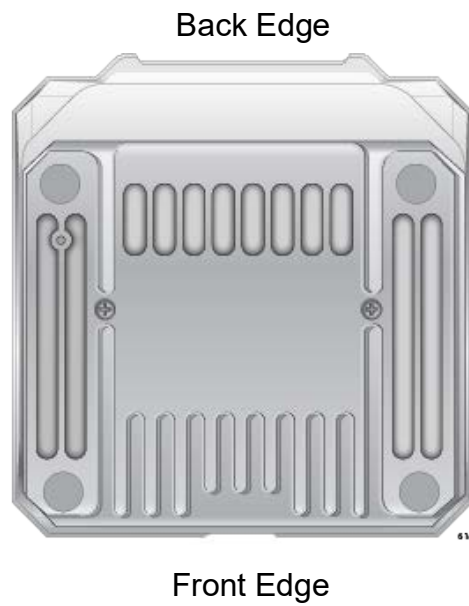

Figure 2. Access Point Bottom View
The bottom view is illustrated in Figure 2.
**Cable Hide** The top cover of the access point is larger than the access point chassis to create space on the back for cable connectors and cables shown in Figure 2 on page 12.